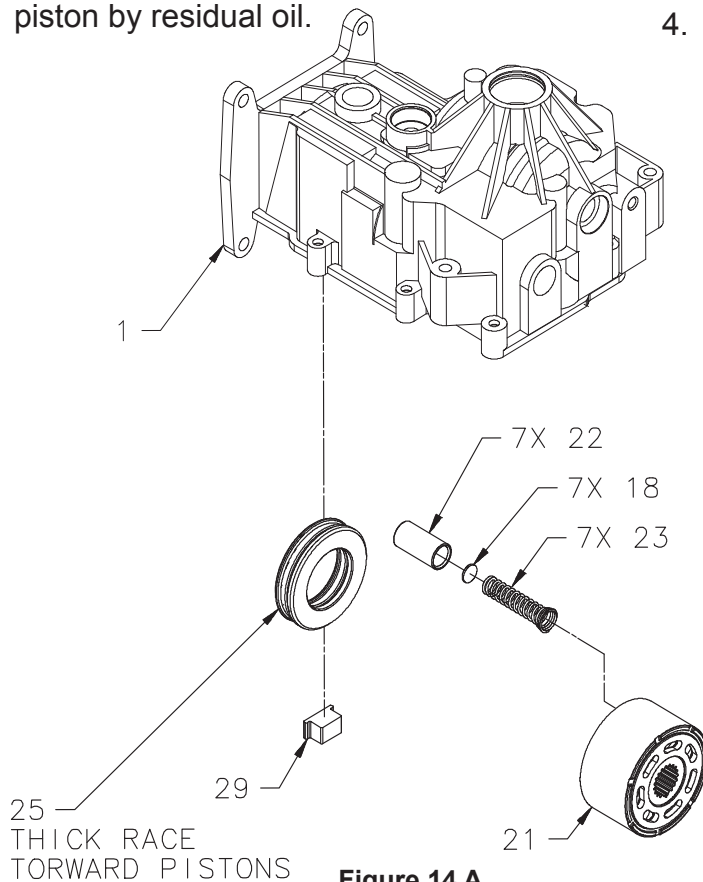

Figure 14 A.
2. Inspect the block running surfaces. NOTE: These “sealing” surfaces (see Figure 14 B) should be smooth in appearance without scratches, scoring, nicks or abrasions. Drag a fingernail across the surface to detect uneven wear or scratches which may not be visible.